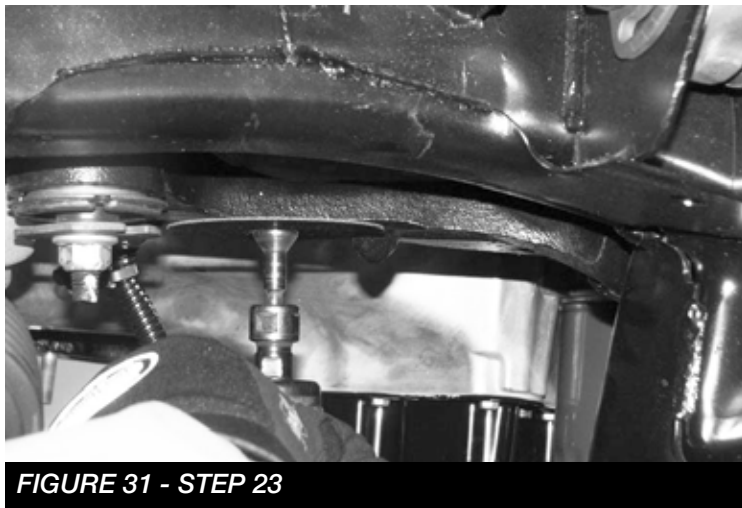

FIGURE 31 - STEP 23
23. Locate the drivers side differential mount. The locating pin on the mount needs to be cut off. Using a die grinder with a cut off wheel, cut the pin flush with the bracket. **SEE FIGURE 31**